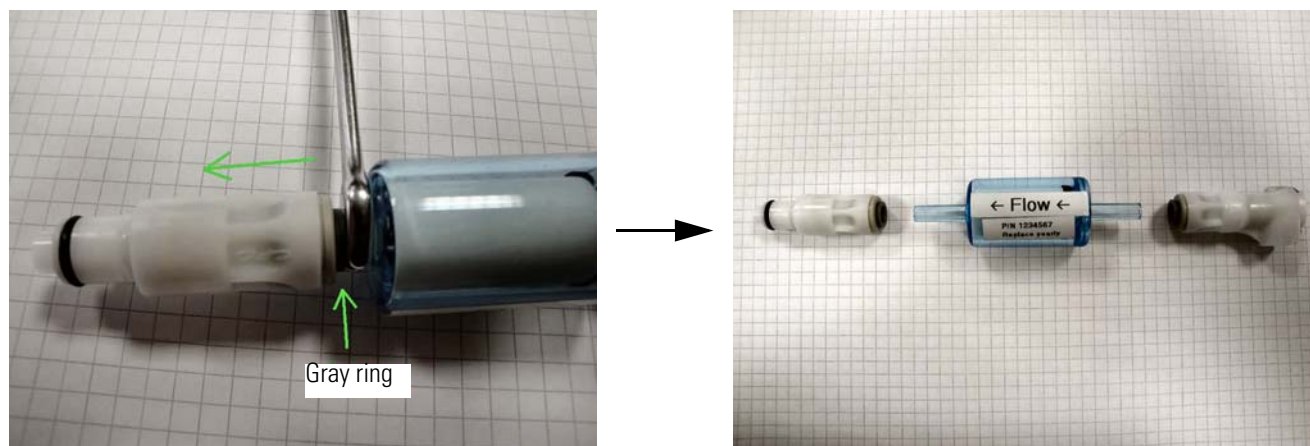

Figure 6-51. Removing the filter cartridge
4. Remove the filter from the assembly by using a 5/16 inch wrench and pressing against the gray ring on the quick coupling, away from the filter. See Figure 6-51.